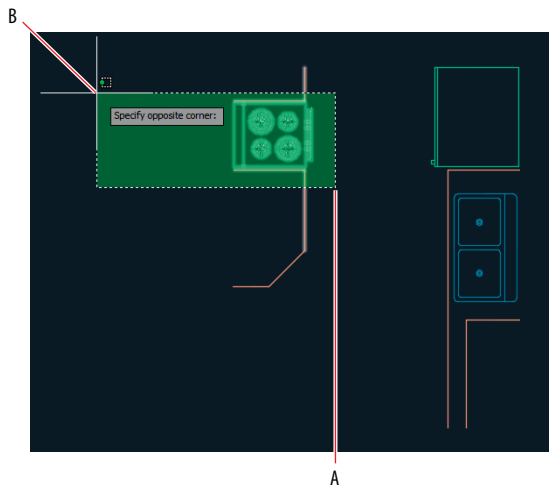

FIGURE 6.30 Stretching isolated objects
3. Click the Stretch button in the Modify panel. Make a crossing selection from point A to B as shown in Figure 6.30 and press Enter. Toggle on Ortho mode if it is not on already. Click an arbitrary first point, move the cursor downward a short distance to establish the vertical direction for the STRETCH command, type **12 (30 in metric)** and press Enter.